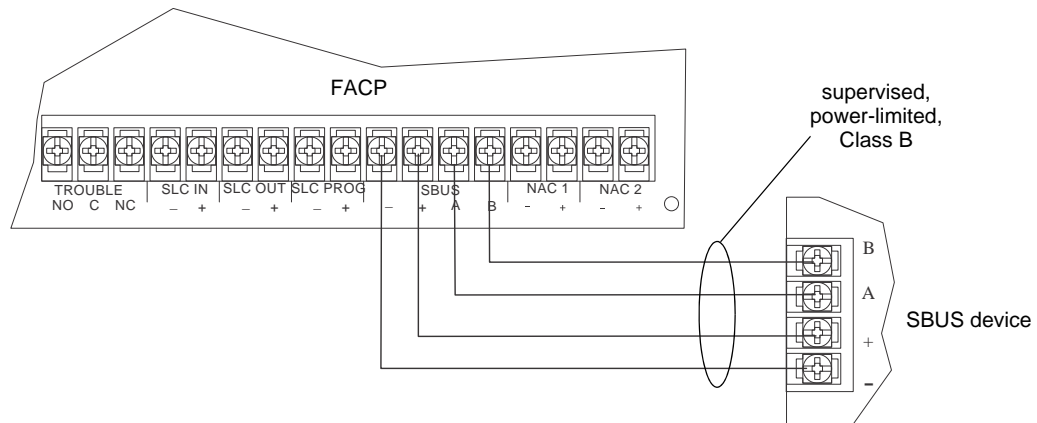

Figure 4.11 SBUS Class B Wiring
Figure 4.11 illustrates the Class B configuration.
3. Connect the 5860 to the panel (see Figure 4.11).
4. After the annunciator wiring to the panel has been completed (refer to Figure 4.11), replace the electronic assembly in the back box. Place the bezel over the back box and tighten the set screws on the bezel.